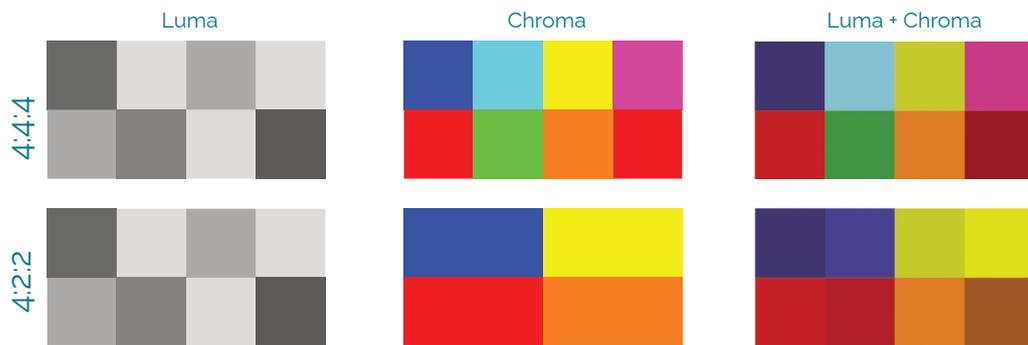

Fig. 2.6
As mentioned in the previous section (2.5) the human eye is more sensitive to variations in luminance (Y) than chrominance (Cr Cb). This makes it possible to transmit data by reducing colour information without losing perceptual image quality. The IP Sub\_sampler 4:2:2 reduces the Cr and Cb chrominance channels by a factor of 2 while leaving the Y channel unaffected, as shown in Fig. 2.6.
Although in Figure 2.6 we can see markedly different colours between the 4:4:4 and the 4:2:2 configuration, on a real image this difference is substantially less pronounced given the large number of pixels present with relative homogeneity of tone between neighbouring pixels. In a video stream, where there are at least 24 frames per second (around 60 fps in the case of the VIP board), these differences are imperceptible to the eye.